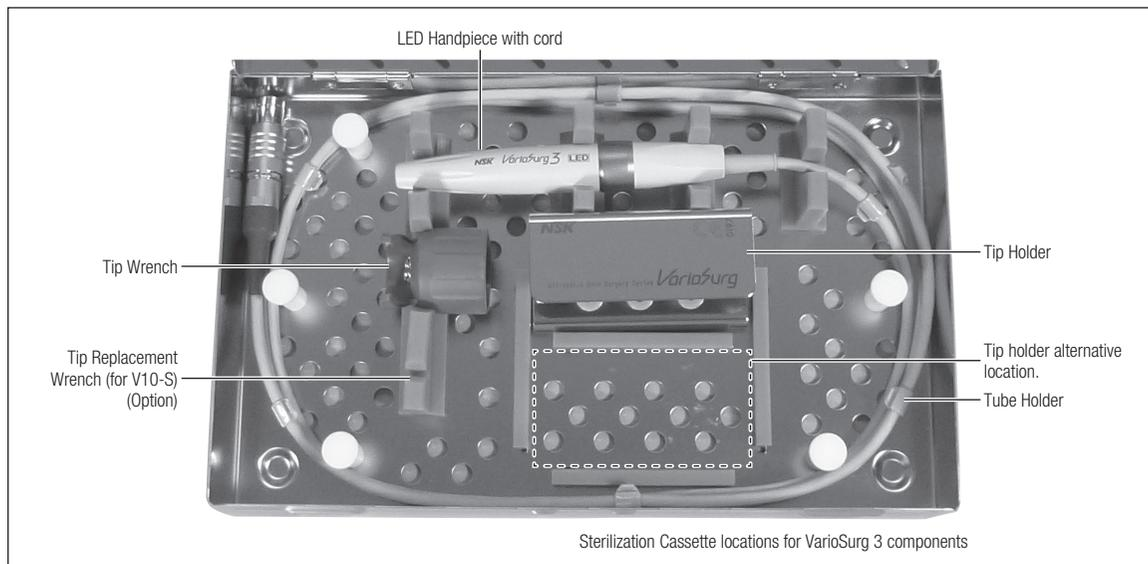

Fig. 24
- 1) Place the Handpiece and Tip Wrench in the Sterilization cassette. (Fig. 24)